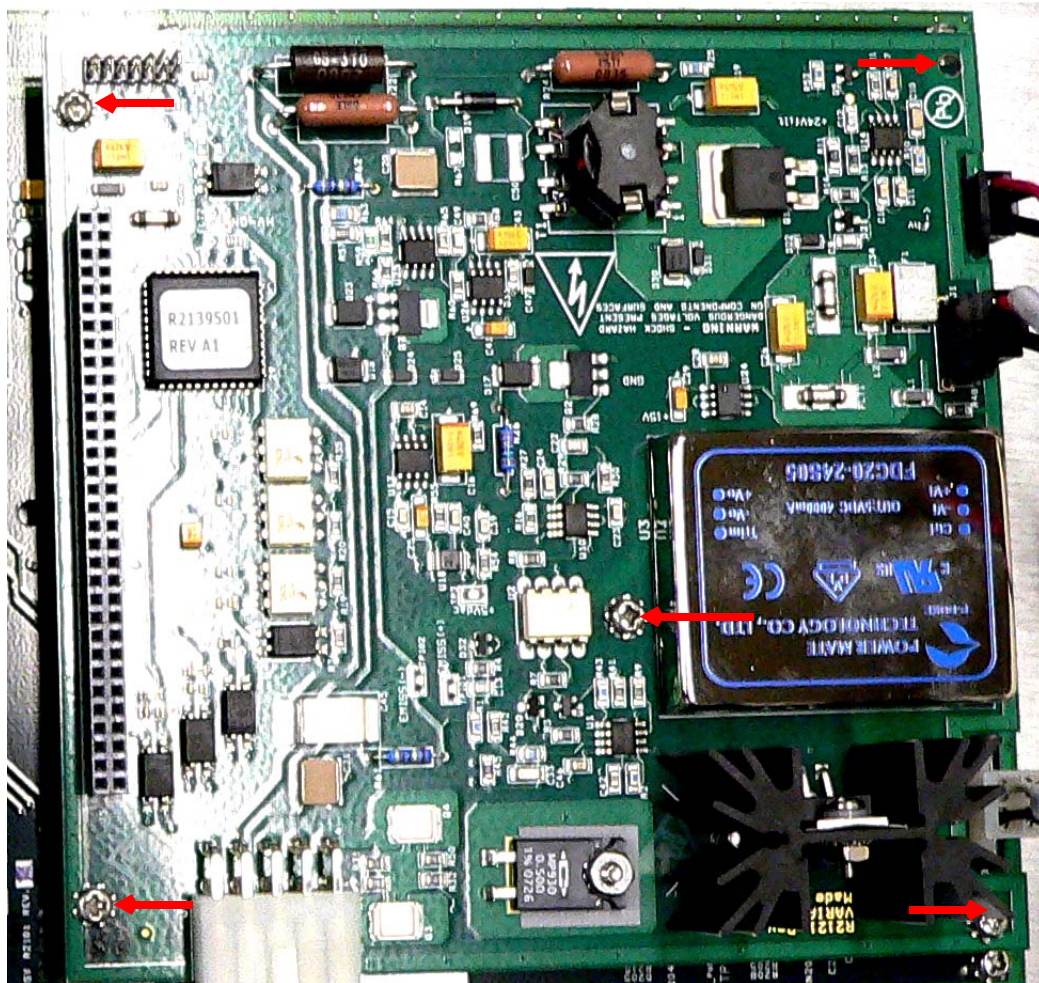

Figure B-33 Mounting Screws
5. Remove the five (5) Philipps head screws and washers (Figure B-33).